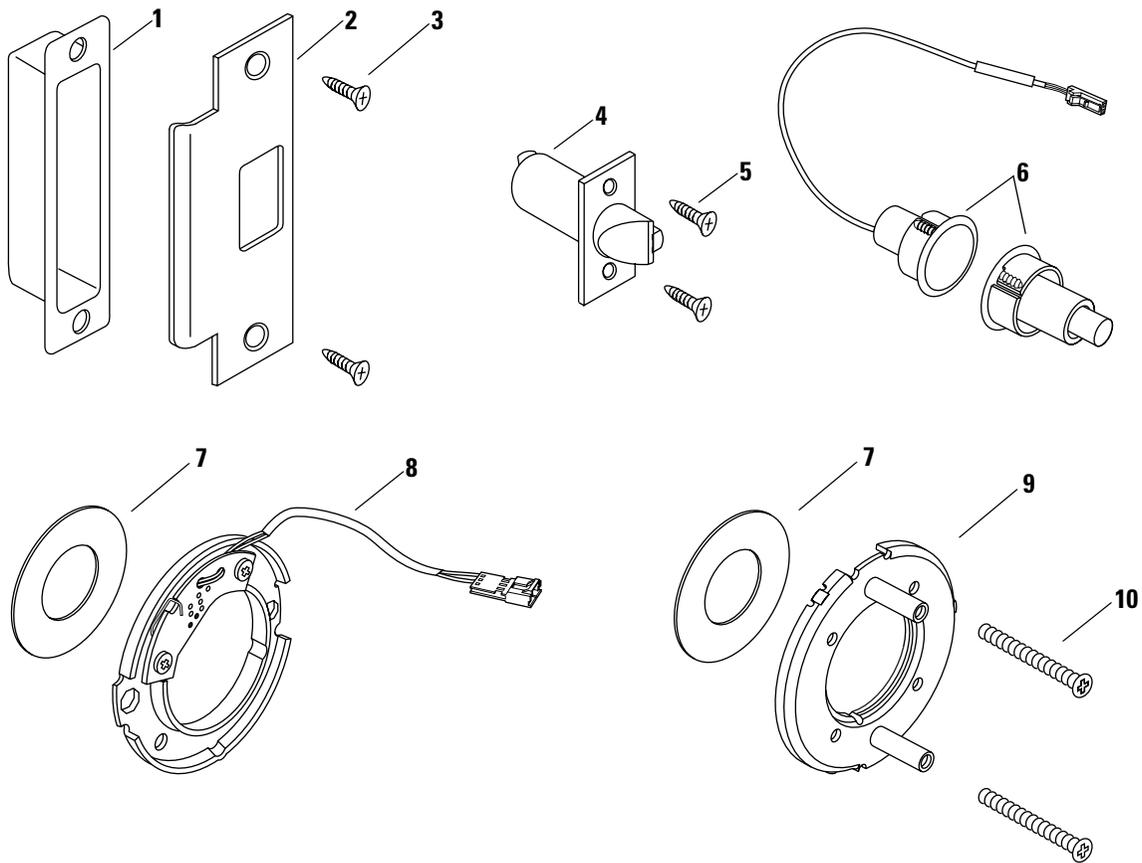

**Figure 2.9** Cylindrical chassis exploded diagram (9K DDEU function shown)
**Cylindrical chassis parts list** Refer to Figure 2.9 and the table below to find the part you need or to convert the function of the lock.